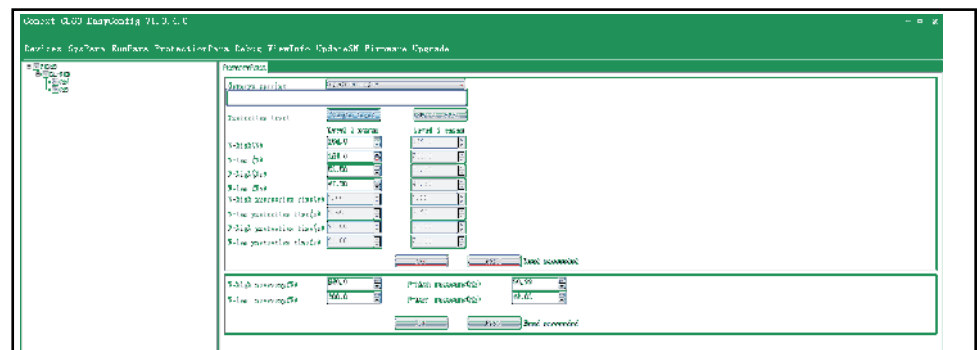

Figure 4-20 Protection Parameters Window - without multiple grid types protection settings
1. In the Navigation bar, click **ProtectPara**. The Protection Parameters window appears. If the selected country supports multiple grid types, the grid types will be shown below the country setting (Figure 4-20).